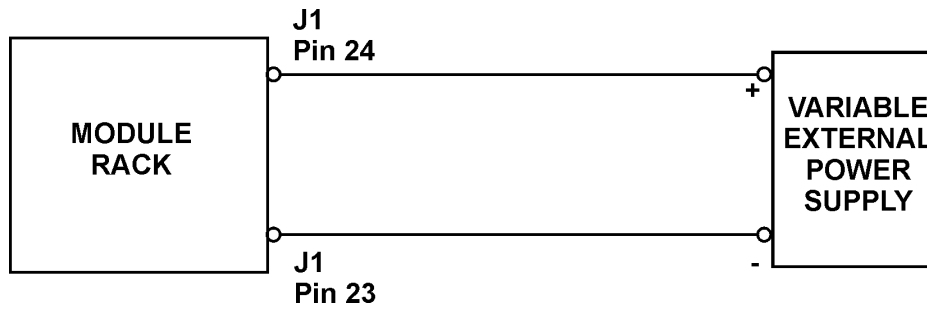

Figure 11. Checking Remote Adjust Input
- 20.9 Checking the Remote Adjust Input.** Connect a variable external power supply as shown in Figure 11. With the output voltage set to zero, check the output voltage of the module with a digital voltmeter. For a 48V unit it should be approximately 45V and for a 24V unit it should be approximately 22.5V. Next, adjust the supply output to +5V and check the output voltage of the module. For a 48V unit it should be approximately 58V and for a 24V it should be approximately 29V. Unplug the external 5V supply and unplug the AC inputs to the rack.